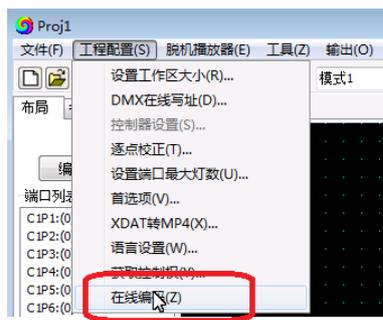

Figure 1
1.2. Open the software LedPlayer-k and click on "Project Configuration" as shown in Figure 1.